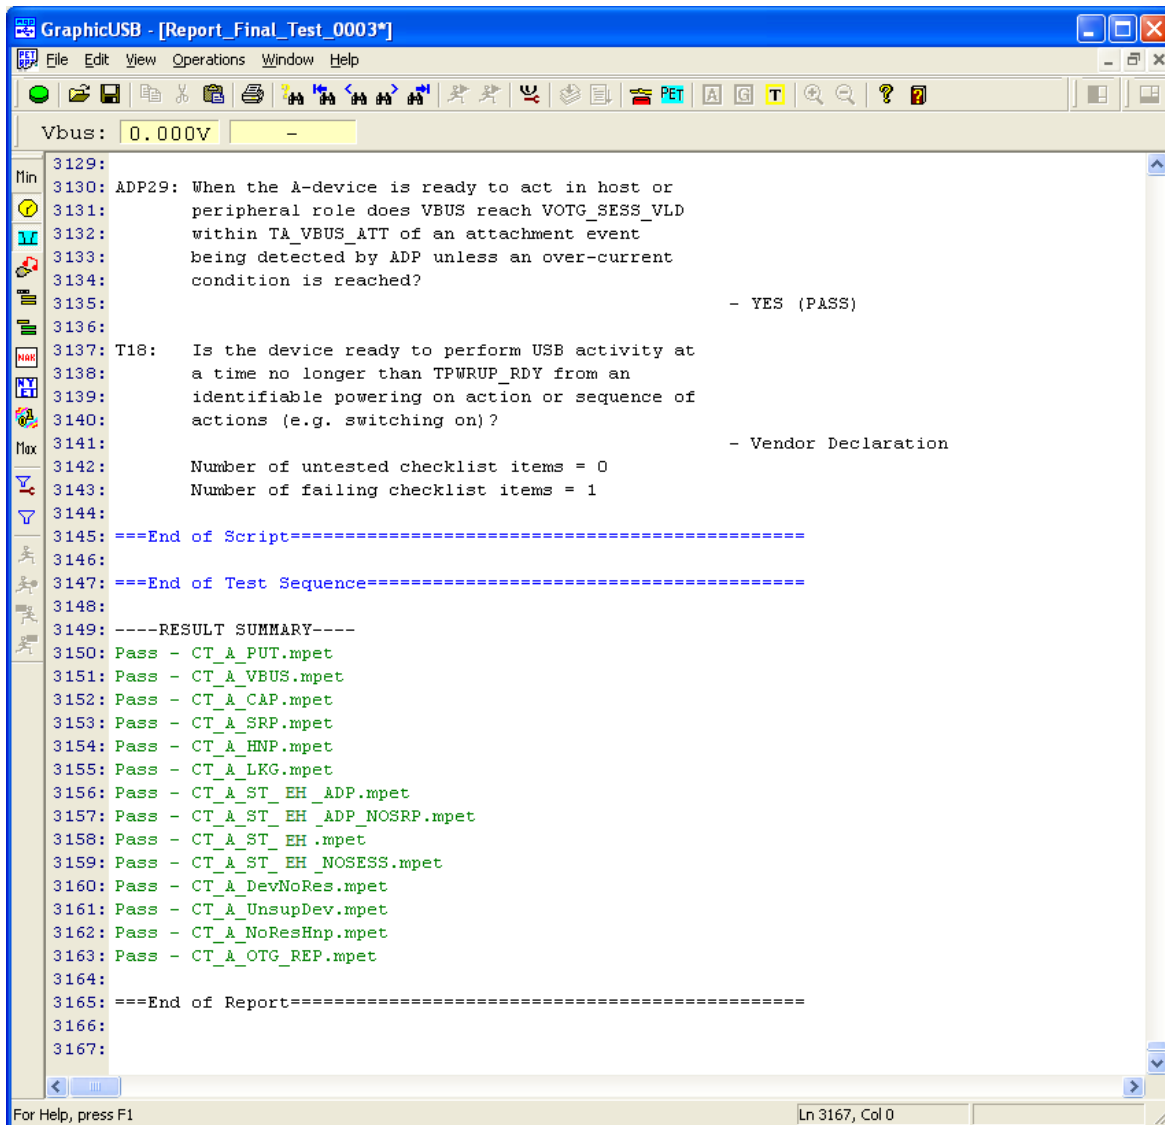

Figure 101. USB-PET Test report
- A text report file will be created, into which the test results are written, as shown in Figure 101.